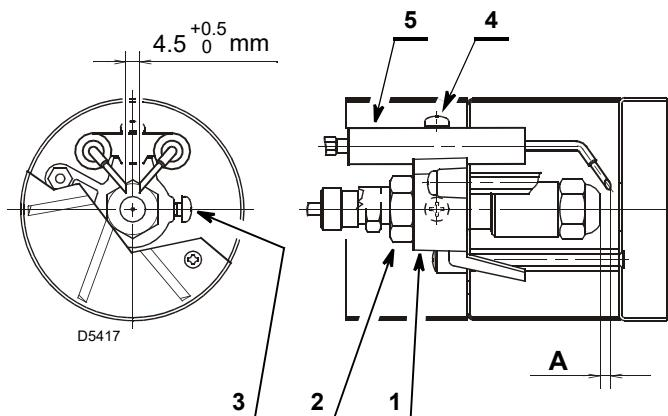

Fig. 17
- rest the diffuser disc-holder assembly 1) (Fig. 17) on the nozzle-holder 2) and block with the screw 3);
- Loosen the wires 1) from the electrodes, loosen the screw 3) (Fig. 17), and take the diffuser disc holder assembly 6) out of the nozzle-holder assembly 5).